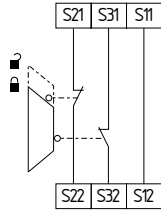

Fig. 8
**Dual-channel guard door monitoring circuit with interlocking device to EN 1088 (see Fig. 8)**